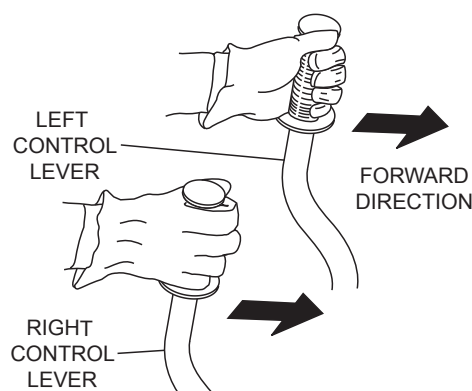

Figure 18. Left and Right Control Levers
1. Push both the left and right control levers forward. See Figure 18.